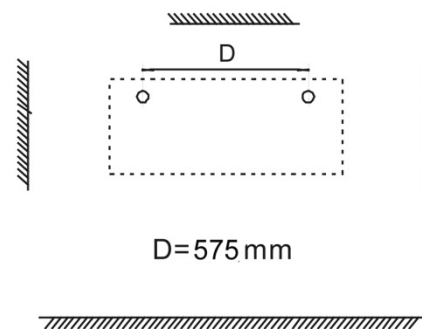

Figure 2
2. Drill two holes on the wall that are suitably sized for inserting the  $\varnothing 8$  mm Fischer screw plugs. (figure 2) –  $D=575$  mm